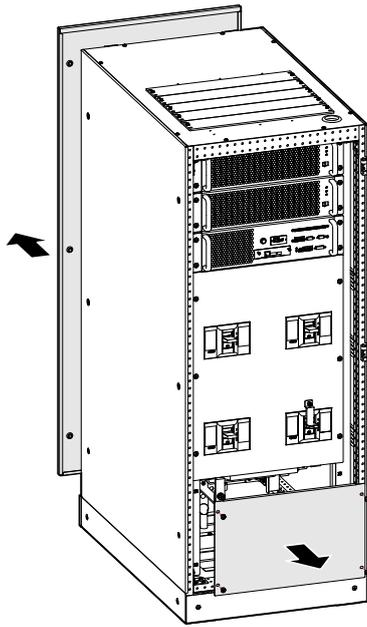

Figure3-33 Remove the back and top wiring cover plate of 160K, 200K
- Step 1 Open the door and remove the front and rear wiring cover plate. The position of cover plate of 200K as shown in Figure3-33.